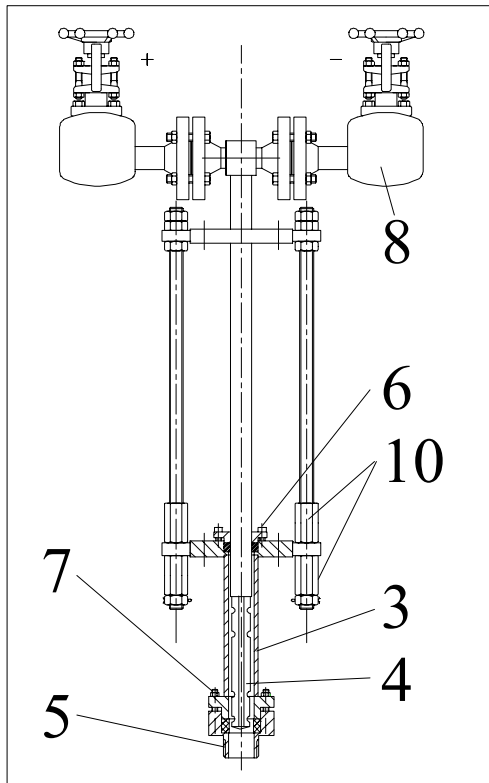

Fig. 11 Sensor profile with protection pipe
10. Verify that the sensor profile {4} is fully retracted in the protection pipe {3}. Check the position of the threaded rod (Fig. 11)
11. Now seal the threaded stud {5} with a suitable sealing compound (Fig. 11).
14. Check all connections for leakage by cracking open the unit isolating valve. If necessary, screw down the 4 screws {6} of the top packing gland and the 4 screw nuts {7} of the bottom packing gland (Fig. 11).